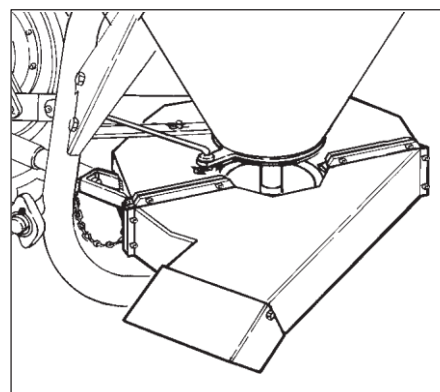

Fig.15
- Single fertilizer conveyor (Fig.15)